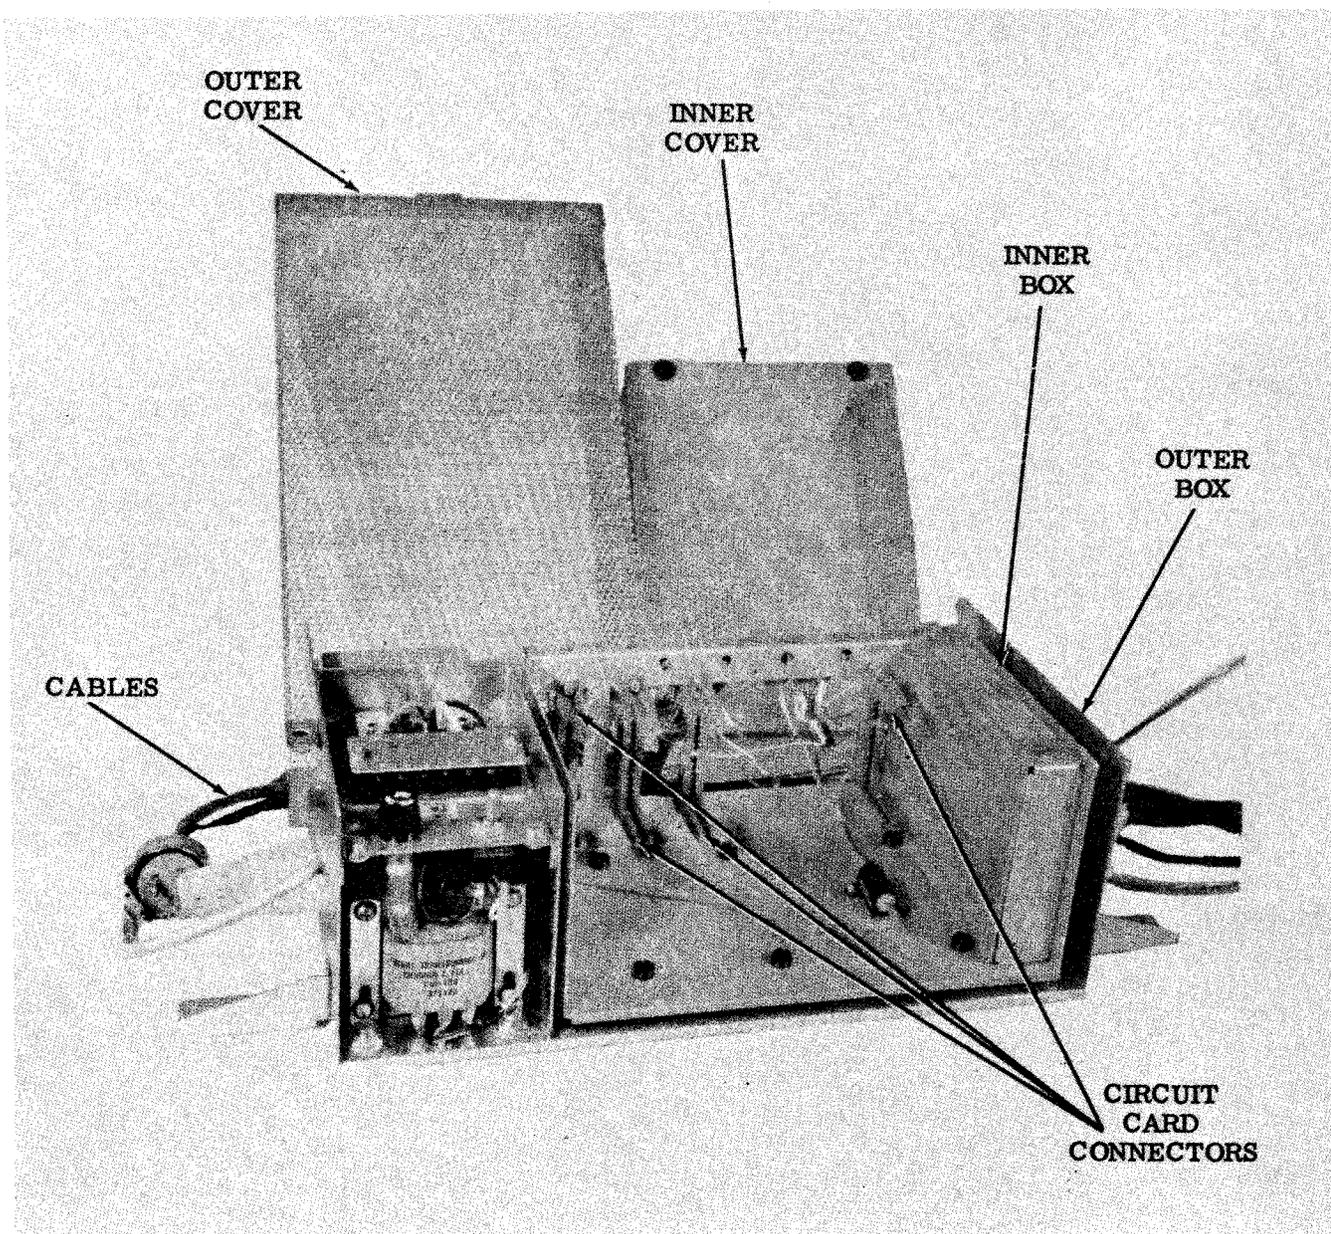

Figure 3-21. ESA Showing Circuit Card Connectors
(1) ESAs differ from one another primarily because of the number of circuit board connectors (figure 3-21) which are provided for the associated keyers and drivers. Another difference is the mounting design; some are designed for table mounting, some for rack